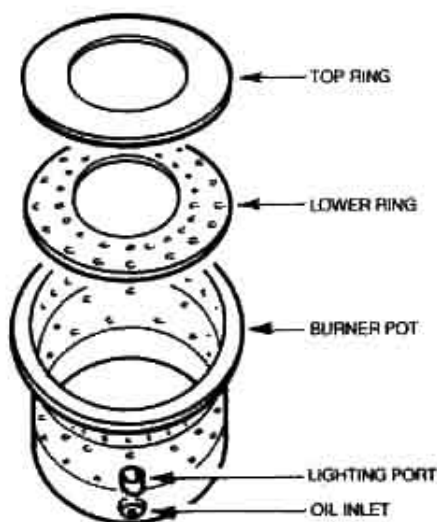

Fig. 3 – ASSEMBLY OF BURNER PARTS
3. Check the burner rings are in place. (see Fig. 3).